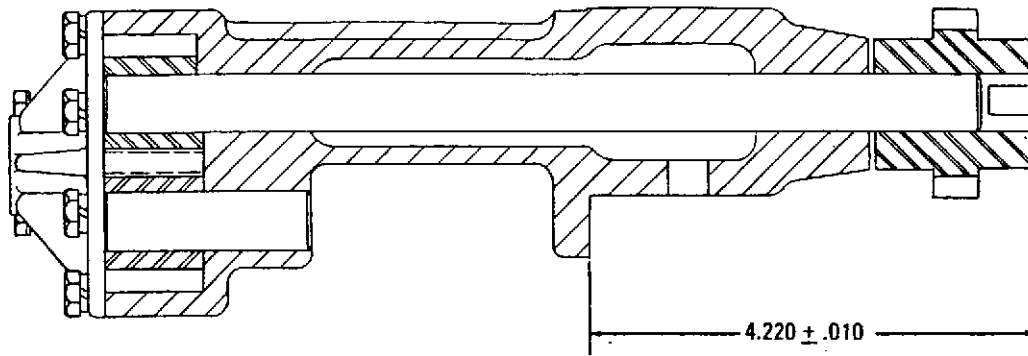

Figure 5-5. Oil Pump Drive Gear Installation Dimensions
1. Press impeller (12) onto the drive shaft (13) so that the outside face of the impeller and the end of the shaft are flush. Once removed, do not press old parts back together.
2. Insert the shaft and impeller assembly into the pump body (16). Press the drive gear (7) onto the shaft. Replace gear that can be pressed onto the shaft with less than 35 pounds gauge pressure. Press the gear onto the shaft to the dimensions shown in figure 5-5.